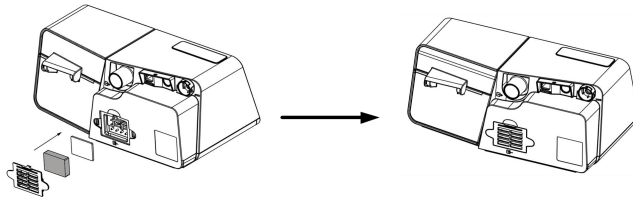

Fig. 12-3
(3) Install the filter cap containing the reusable air filter/ disposable ultra-fine filter to the device, as shown in Fig. 12-3.